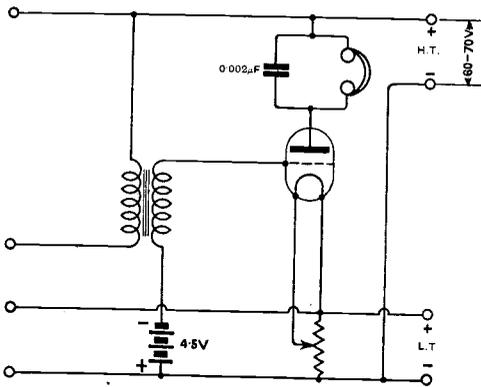

Fig. 1. "E.W.B." (Highbury). Method of applying negative potential to grid of L.F. amplifying valve.
(1) The howl is caused by unsuitable design of the components in the last L.F. stage. It will generally be found that sufficient volume of sound is obtainable from two stages of transformer L.F. amplification, and some difficulty may be experienced in obtaining amplification without distortion when using three stages. Try reversing the connections to the transformers, shunting the primary windings with small condensers, and connecting resistances of say  $0.5\text{ M}\Omega$  across the secondaries. (2) The correct method of joining cells in the grid circuit is shown in Fig. 1. (3) The grid leak generally should be connected to positive L.T.